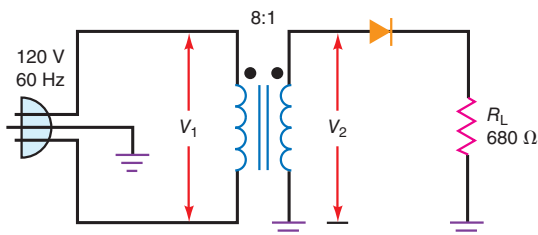

Figure 30-25
30.4 Calculate the peak output voltage and the dc output voltage in Fig. 30-25 using the second approximation.